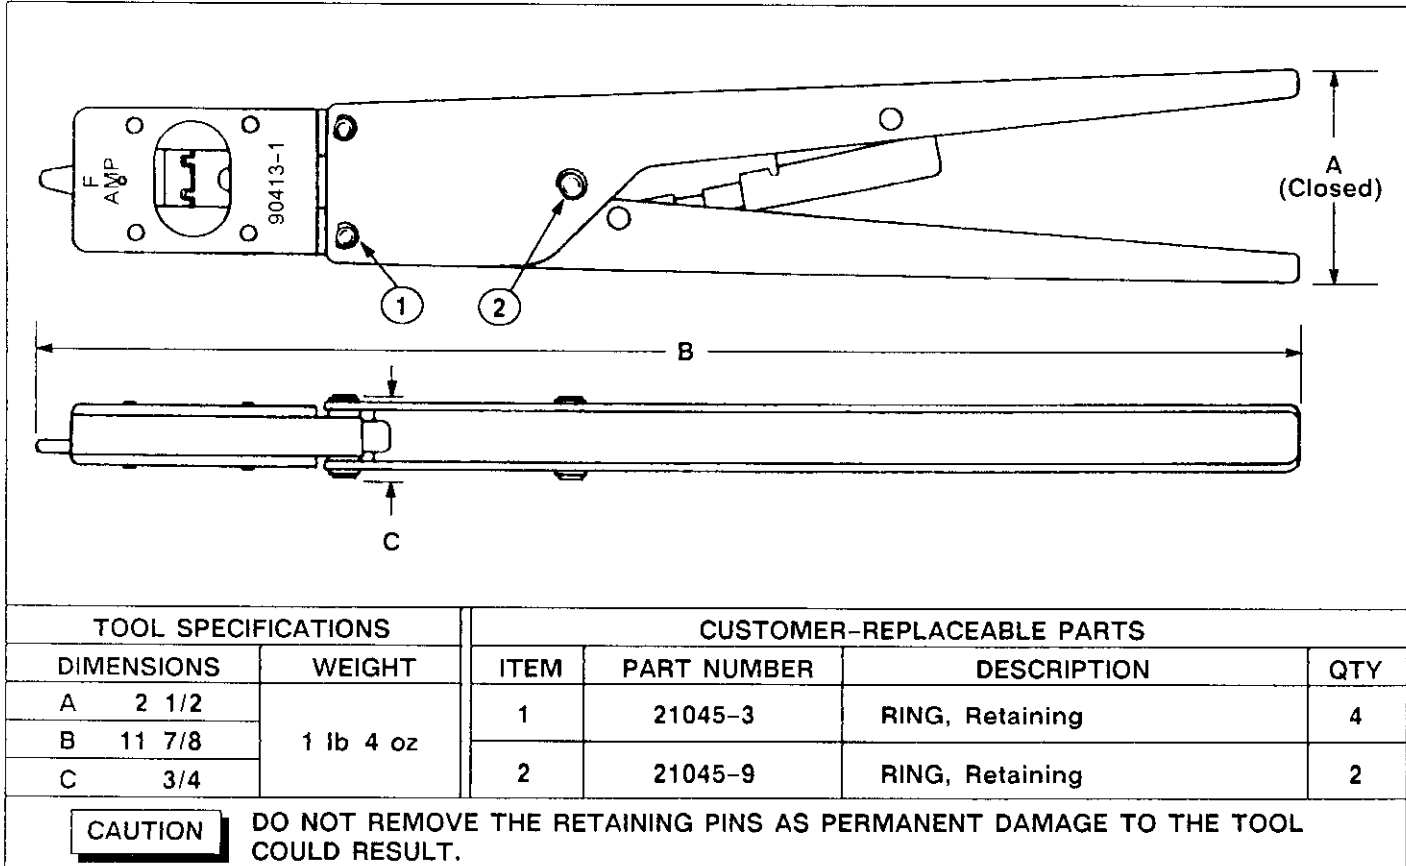

Fig. 5
2. Make certain that all retaining pins are in place and are secured with retaining rings. If replacements are necessary, refer to the parts list in Figure 5.
Customer-replaceable parts are listed in Figure 5. A complete inventory should be stocked and controlled to prevent lost time when replacement of parts is necessary. When replacement parts are needed, order by part number and description. Replacement parts can be ordered from:
Parts other than those specified in Figure 5 must be replaced by AMP to ensure correct operation of the tool. When repair is necessary, return the tool, with a written description of the problem, to: